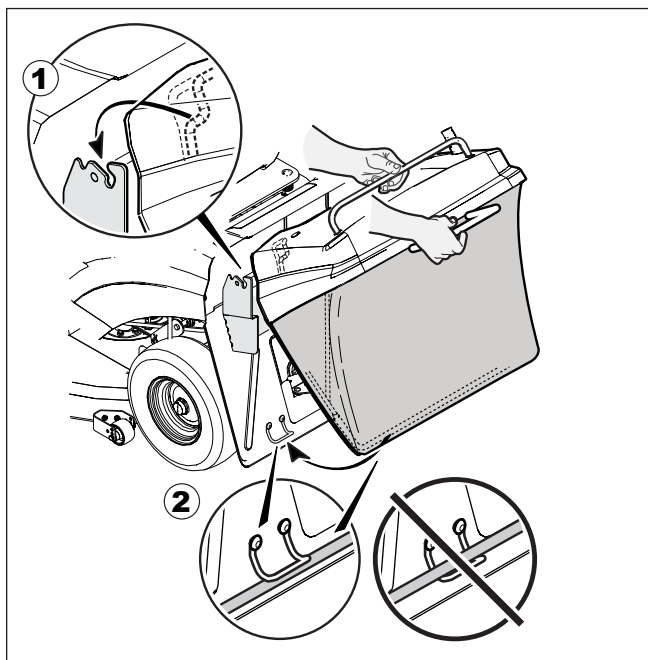

Figure 5
1. Mount the grass bag assembly onto the rear bagger brackets as shown (see **Figure 5**).